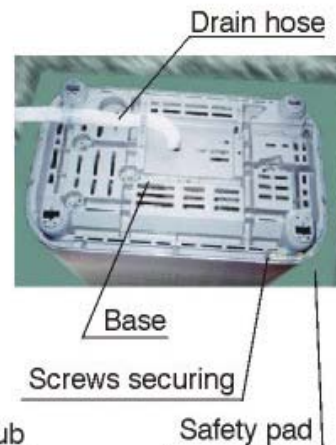
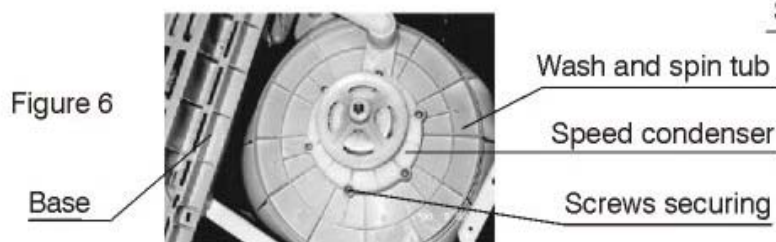

Figure 5
Figure 6
**To replace speed reducer** (see Figure 5 ,Figure 6)
**To replace wash motor** (see Figure 5,7,8)